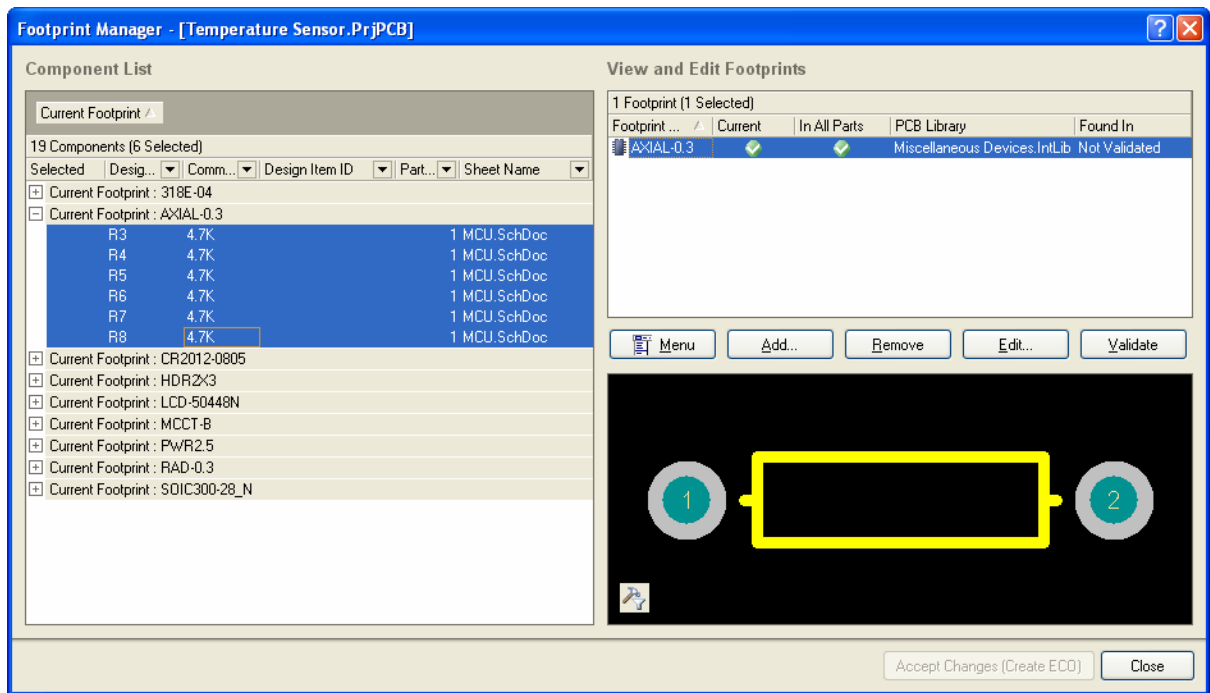

Figure 12. The Footprint Manager, with all components that use an Axial-0.3 type footprint selected.
2. Group by the **Current Footprint** column, and select the components that have the footprint **AXIAL-0.3**, as shown in Figure 12.